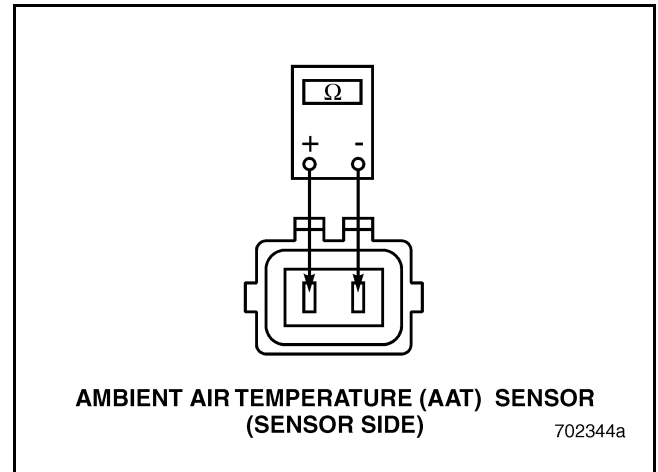

Figure 84
3. Measure the resistance across the pins of the AAT Sensor with the ambient air temperature between 32° and 104°F (0° and 40°C) (see Figure 84).